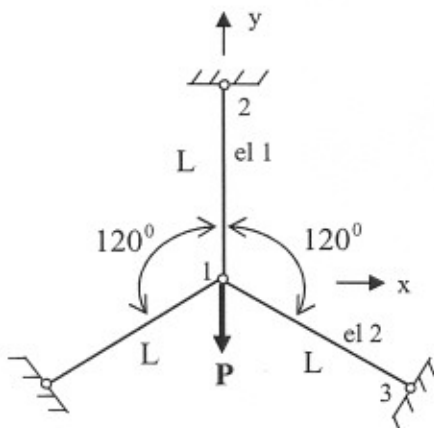

Fig. 2
(10) **1)** For the load as in Fig. 2, determine: